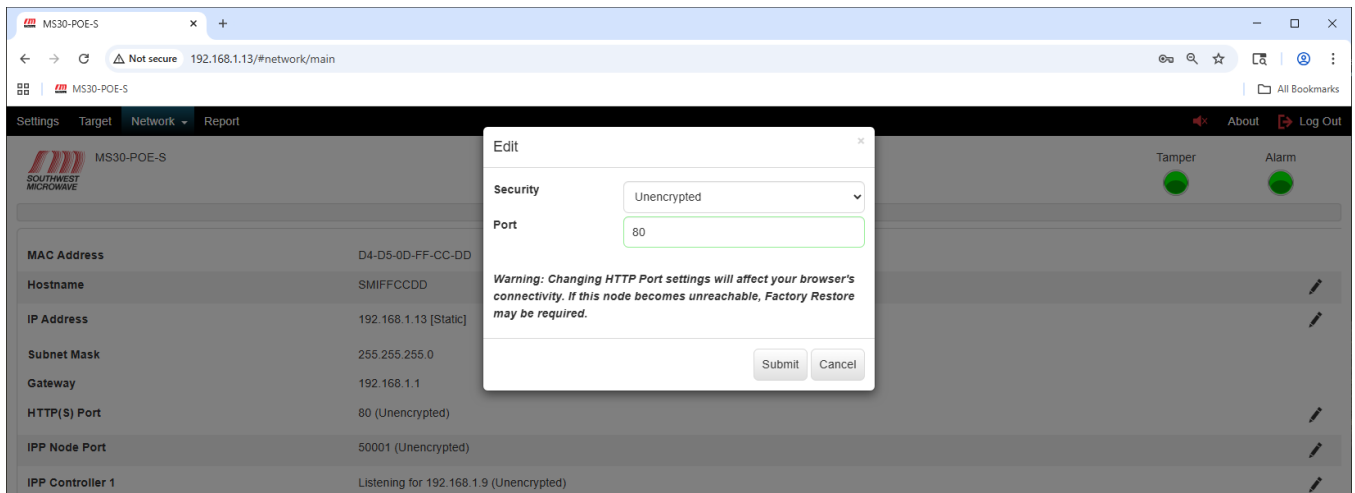

Figure 11.4 – HTTP(S) Port
11.4 HTTP(S) Port
To edit and enable the “HTTP(S) Port” select the pencil icon on the right of the screen to open the “Edit HTTP(S)” dialog box as shown in Figure 11.4. This Edit box will allow enabling or disabling encryption. The default port number is 80. *Selecting the field will display the valid port ranges of 49152 to 65535.*